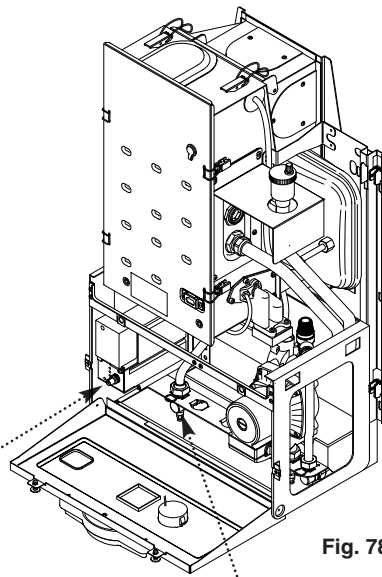

Fig. 78
2. Purge away air from the supply pipe at the gas service cock. (BS 6891: 1988) (Fig. 78).